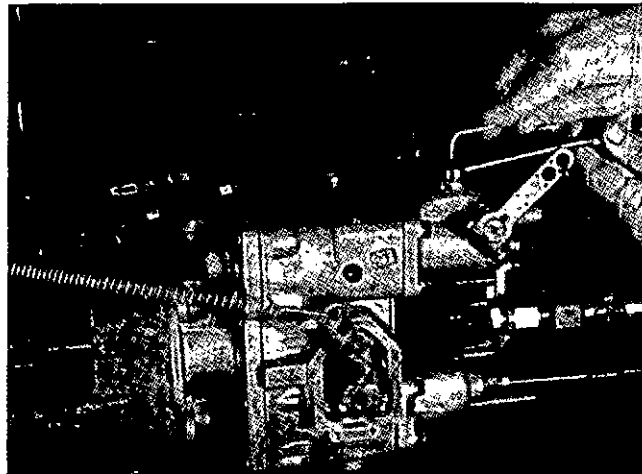

Fig. 10-30, (F5338). Set the VS rated governing speed.
10. When the pump is running at the rated rpm, turn the VS maximum speed screw (top screw) in until the pressure starts to decrease, Fig. 10-30.